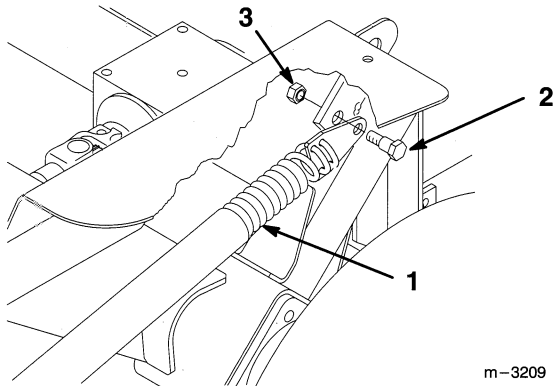

Figure 10
3. Remove 3/8" x 7/8" (23 mm) shoulder bolt and 3/8" locknut securing spring end plate assembly to carrier frame (Fig. 10).